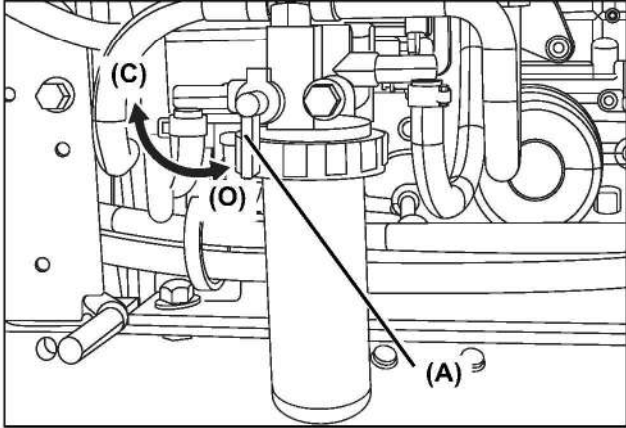

Fig 7-1
1. To open the fuel shut-off valve (Fig 7-1, A): Turn the fuel shut-off valve to the ON (open) position. (Fig 7-1, O)
2. To close the fuel shut-off valve: Turn the fuel shut-off valve to the OFF (closed) position. (Fig 7-1, C)